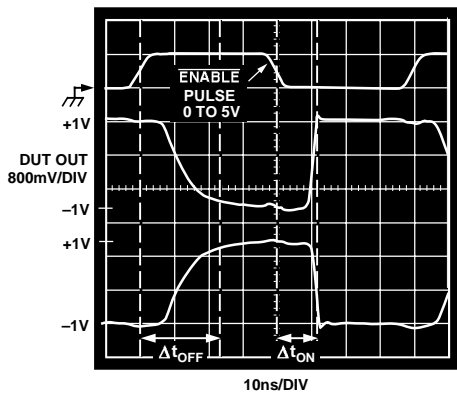

Figure 4. Enable and Disable Switching Characteristics
- ²ENABLE pin is driven with 0 V to +5 V pulse (with 3 ns edges). The state of the A0 and A1 pins determines which input is activated (refer to Table I). Set IN0 and IN2 = +1 V dc, IN1 and IN3 = -1 V dc, and measure transition time from 50% of ENABLE pulse (+2.5 V) to 90% of the total output voltage change. In Figure 4, Δt_{OFF} is the disable time, Δt_{ON} is the enable time.